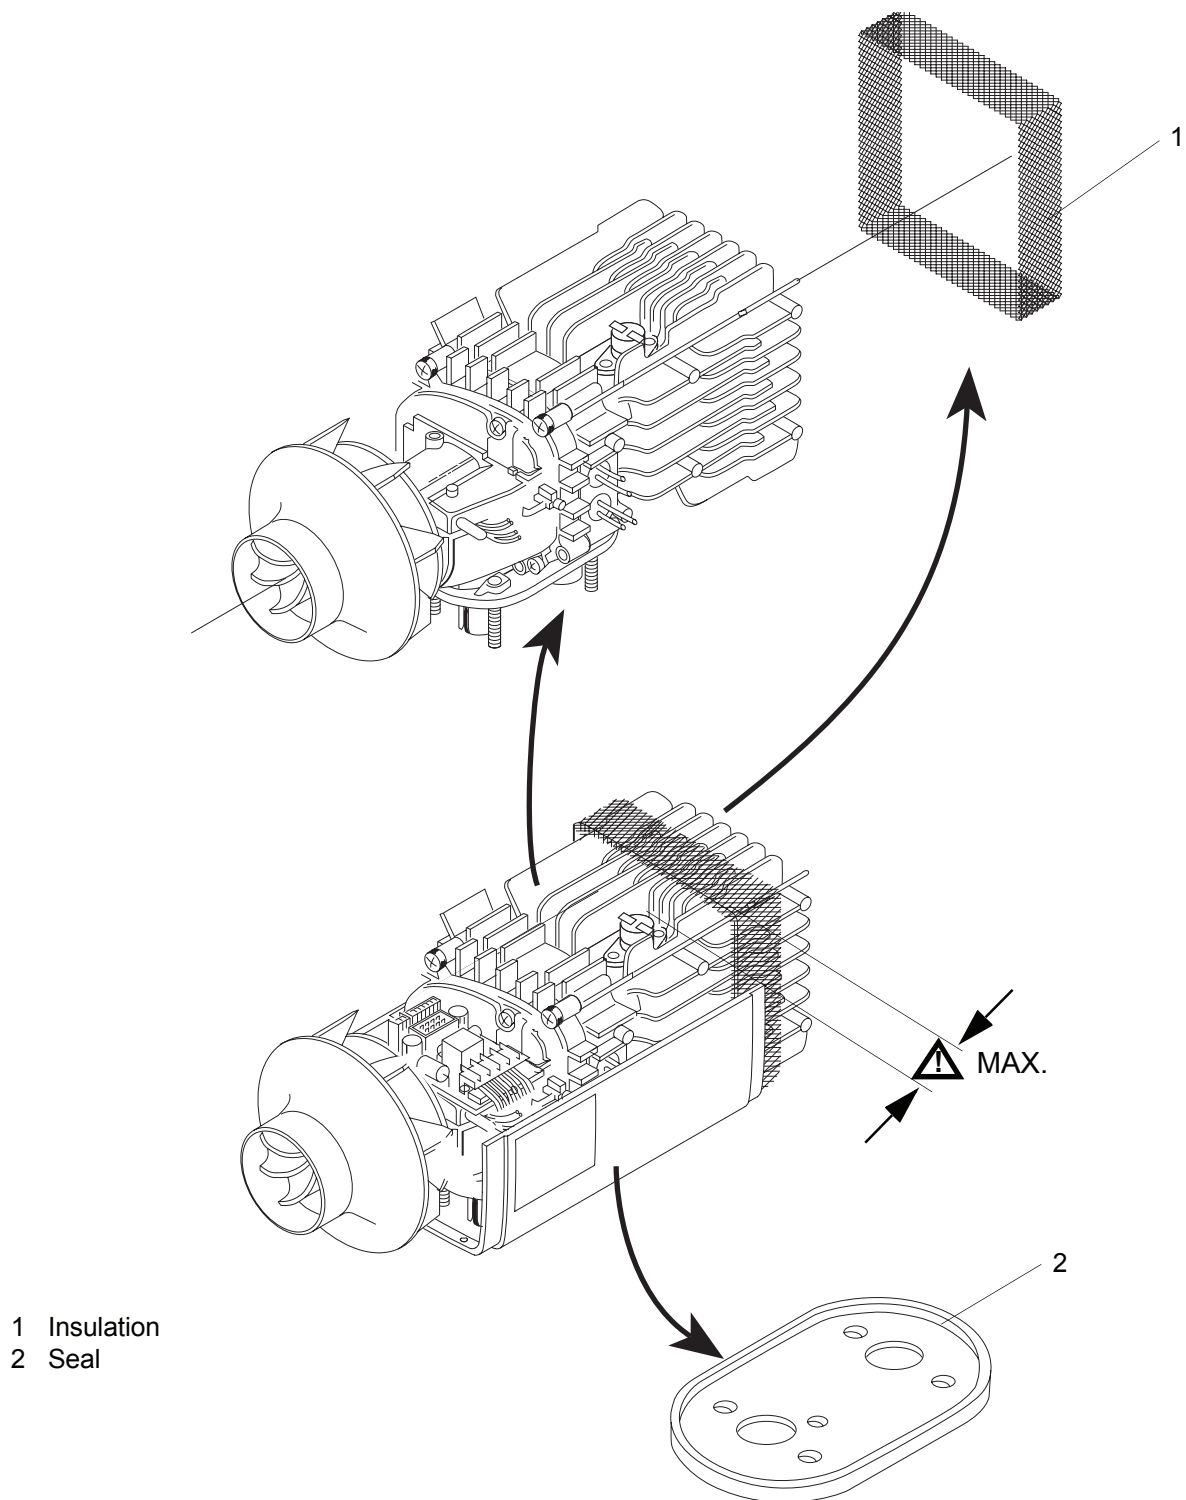

Fig. 903 Replacement of Combustion Air Fan (Disassembly)
3. Remove seal (2 Fig. 903) from lower housing shell and discard.
5. Remove insulation (1, Fig. 903)
- The wire insulating mesh must be installed as shown in Fig. 903 to prevent unwanted contact with the temperature sensor terminals.
4. Place wire insulating mesh into position on the heat exchanger (1, Fig. 903).
6. Fit new seal (2, Fig. 903) on heater mount base.